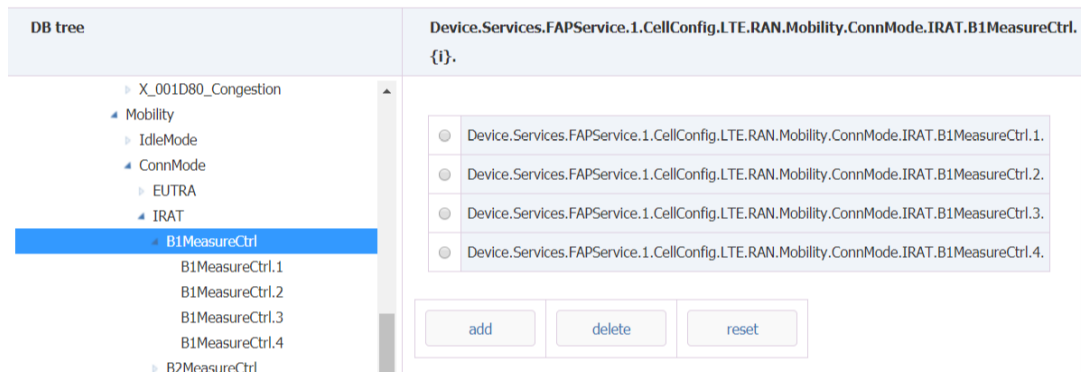

Figure 321 B1 event-
- The eSRVCC switch based on upline service quality is triggered by event B1, as shown in figure 321. There are 4 sets of B1 configurations for different purposes. The eSRVCC switch based on upline service quality is triggered by B1MeasureCtrl. Error: Reference source not found